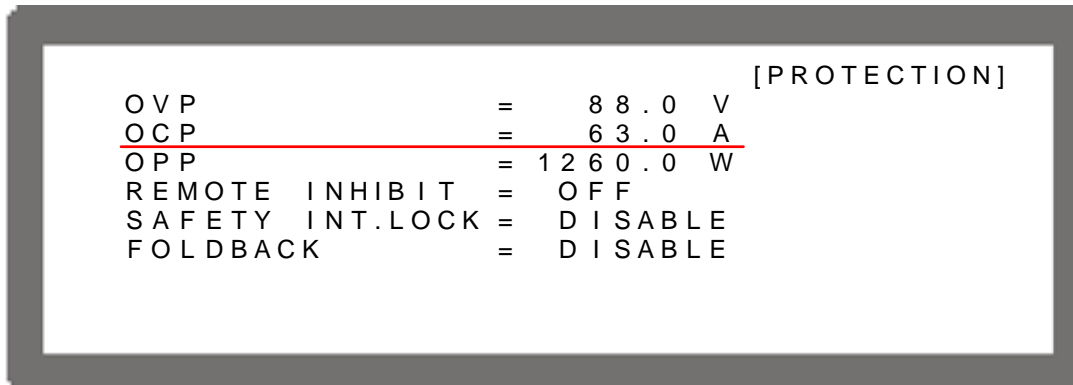

Figure 3-72
1. Use the “”, “” keys to move the cursor to the column to be set as Figure 3-72 shows.